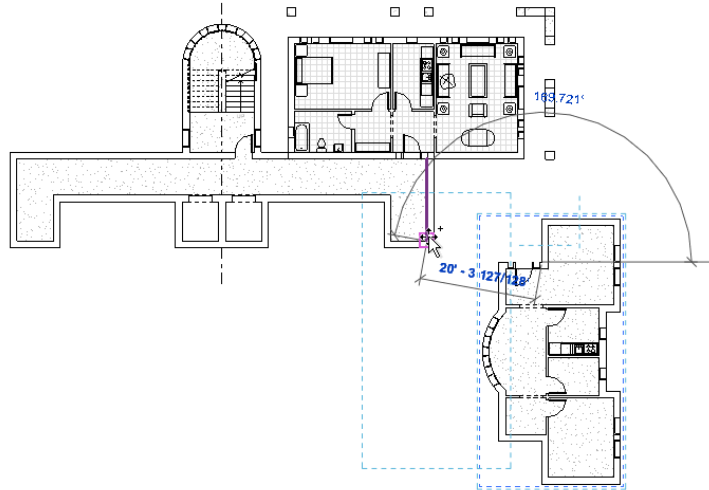

Figure 16-71 Moving the elements of the Apartment 2 project
12. Use the **Rotate** tool to rotate the elements of the *Apartment 2* project clockwise by 90 degrees, refer to Figure 16-71.
14. Ensure that the elements of the *Apartment 2* project are selected. Then, choose the **Move** tool from the **Modify** panel of the **Modify | Model Groups** tab and move the elements, as shown in Figure 16-71. Ignore any warning message at this stage. Next, choose the **Modify** button from the **Select** panel.